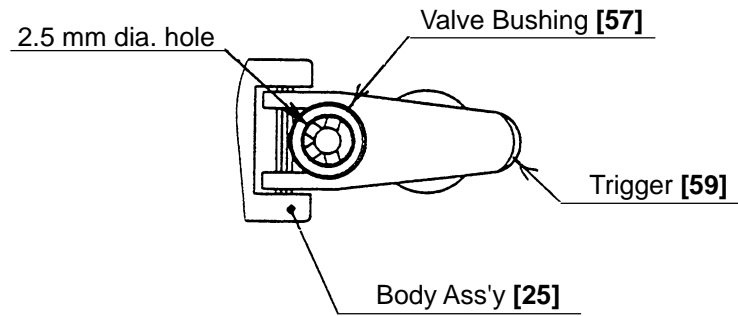

Fig. 17
- Plunger Spring [54] and Plunger (B) Spring [73] are small and apt to be twisted and lost. Be careful when handling them.
- Reinstall the Valve Bushing [57] facing the four 2.5 mm dia. holes at its center to the Body Ass'y [25] side (Fig. 17).